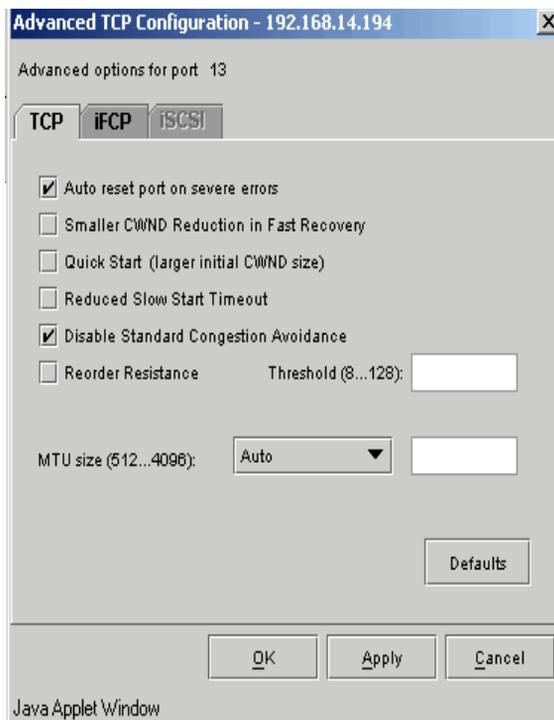

Figure 4-3 Advanced TCP Configuration
1. Click the *Advanced* button. The *Advanced TCP Configuration* dialog box appears (Figure 4-3 on page 4-6).